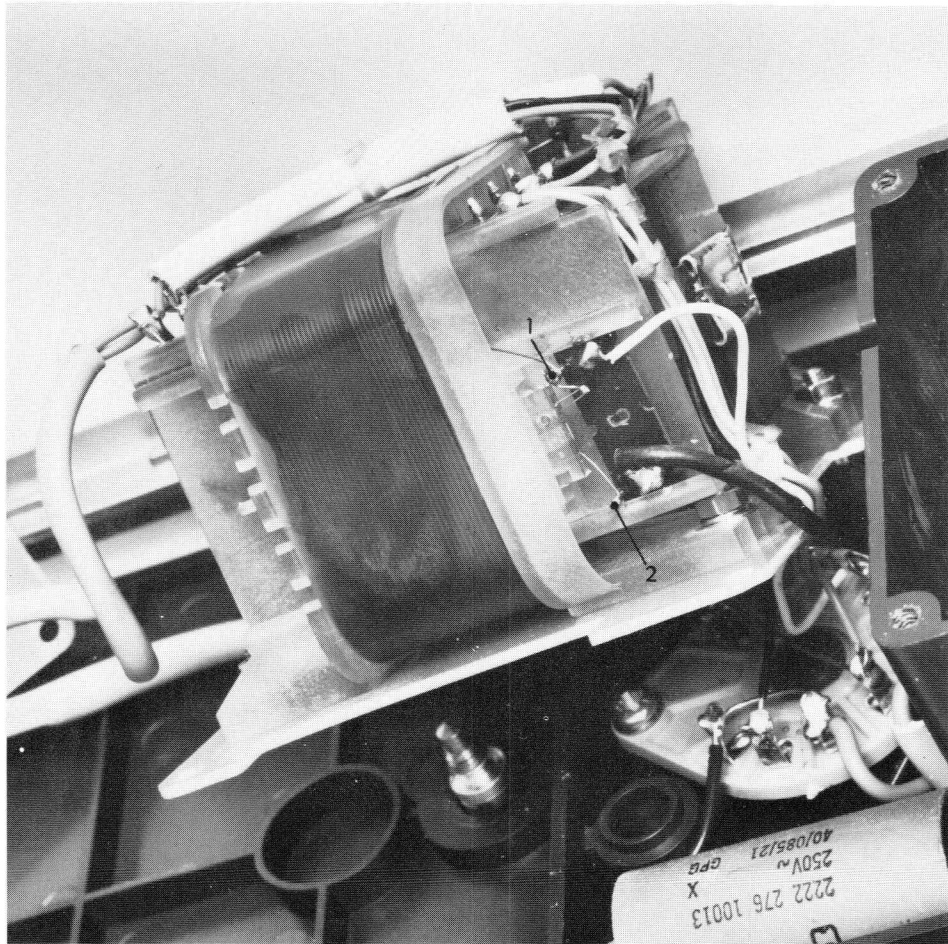

Fig. 3.11. Replacing the thermal fuse
- Unsolder fuse terminals 1 and 2 (Fig. 3.11)